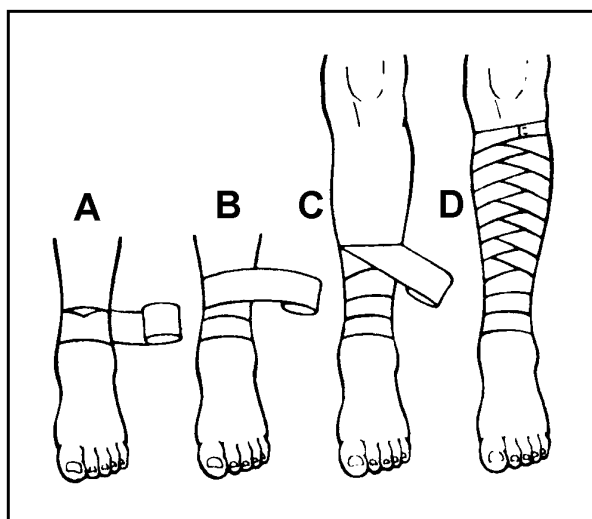

Figure 3-21
- c. Use a spiral reverse wrap to cover small to large conical areas, for example, from ankle to knee. (See Figure 3-21.)